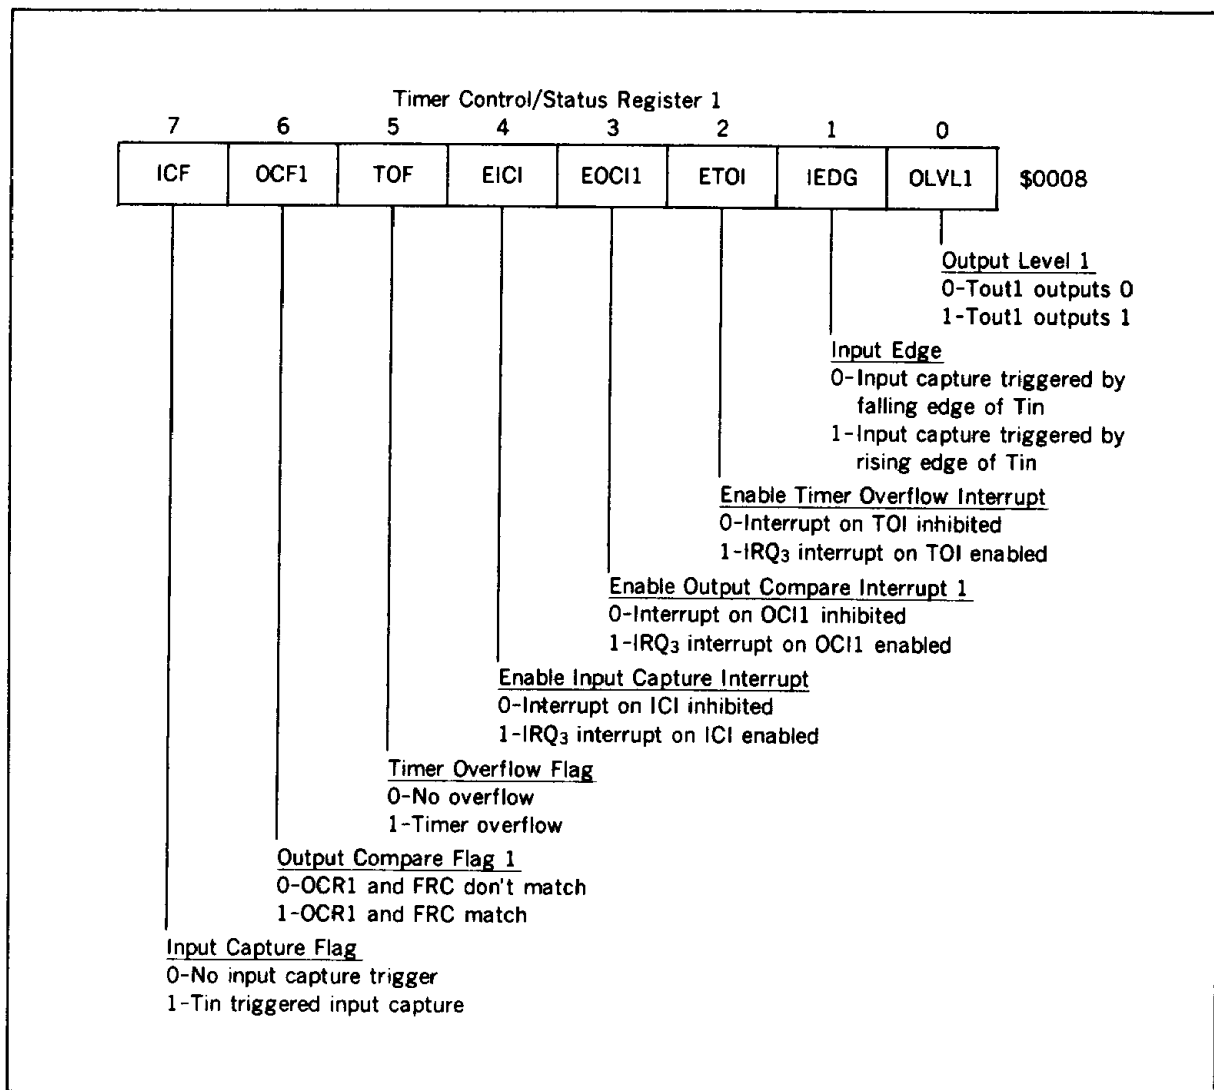

Figure 27. Timer Control/Status Register 1
**Timer Control/Status Register 1 :** The timer control/status register 1 (TCSR1: \$0008; figure 27) is an eight bit register. All bits can be read and the lower five can be written. The upper three are read-only status bits. TCSR1 is cleared at reset.